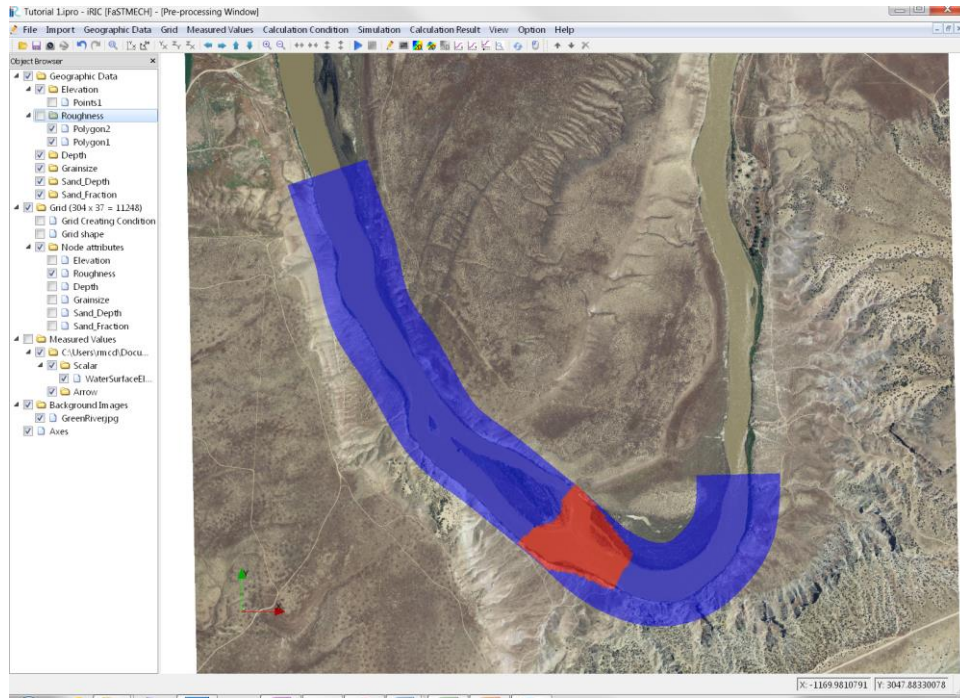

Figure 26. Final roughness attribute mapping
- Make sure that the roughness values have been mapped to the grid by checking the box next to roughness under *Grid | Node Attributes* in the **Object Browser**. You may need to expand those sections to see the full list. Make sure you get a result that looks like Figure 26.